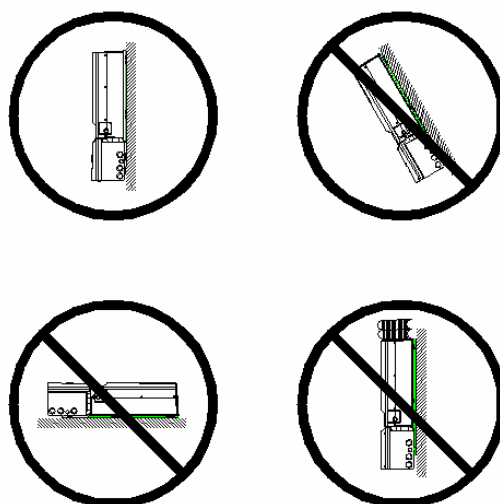

Figure 5.4.3: Installing Position and Location
- i) A rectangular-shaped mounting bracket that shipped with the Eaton grid-tied PV Inverter is able to be used with all types of walls such as stone wall, brick wall or wooden wall, but it is more important to ensure the wall that is selected will be able handle with the weight of PV Inverter, specifically the installations that are wooden walls. Figure 5.4.3 described the required dimension of drilling locations: